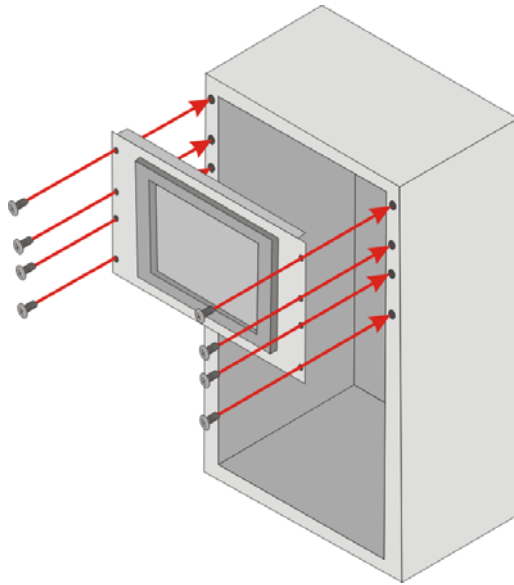

Figure 3-35: Install into a Rack/Cabinet
Step 5: Slide the PPC-F12B/15B/17B-BTi with the attached rack/cabinet bracket into a rack or cabinet (**Figure 3-35**).
Step 6: Once the flat panel PC with the attached rack/cabinet bracket has been properly inserted into the rack or cabinet, secure the front of the rack/cabinet bracket to the front of the rack or cabinet (**Figure 3-35**).